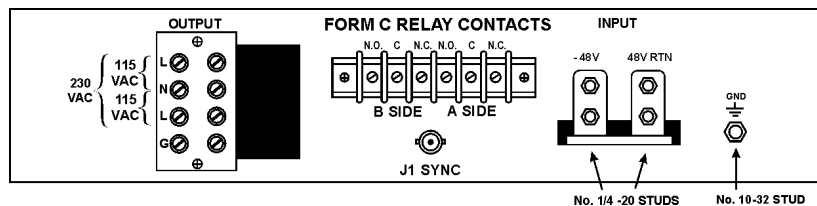

**Figure 2. Front and Back of INV2500**
- 8.1** Figure 2 shows the front and back of an INV2500. On the left side of the front panel of the INV2500 is the input circuit breaker. To the right are the two cooling fans and the output circuit breaker. Above the output breaker from the top are the green LED indicators for Input OK, Sync OK and Output OK.
normally closed (N.C.) positions for normal operation of each inverter. See Figures 2 and 3 for connections. Note that for the INV5000 there is a separate set of contacts for each half (A and B sides) of the inverter. If it is desired to monitor the INV5000 as a whole, the two sets of contacts may be connected as shown in Figure 7 to give an OR function for either set of contacts.